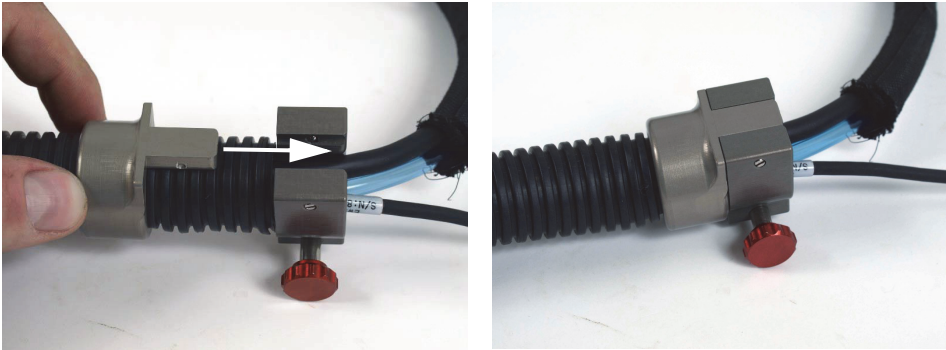

Figure 2-18 Assembling the strain relief connector
5. Align and assemble the threaded and annular parts of the strain relief (see Figure 2-18 on page 50).